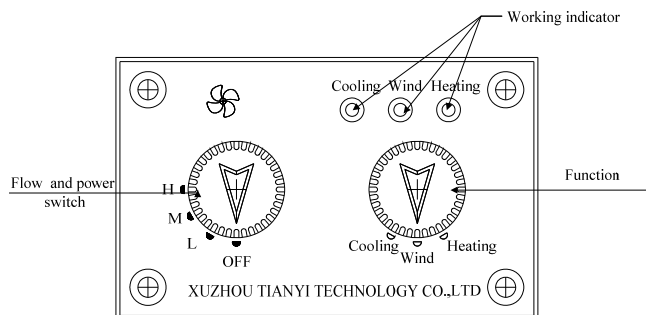

Figure 5
(1) Introduction of panel. (Refer to Figure 5)